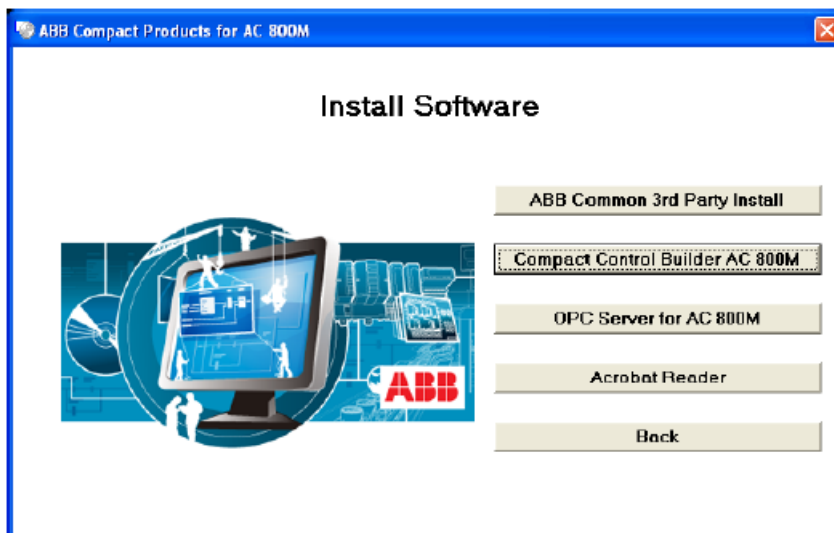

Figure 5. Install Software dialog
- The **Install Software** button activates the installation procedure. The Install Software dialog opens as shown in Figure 5.